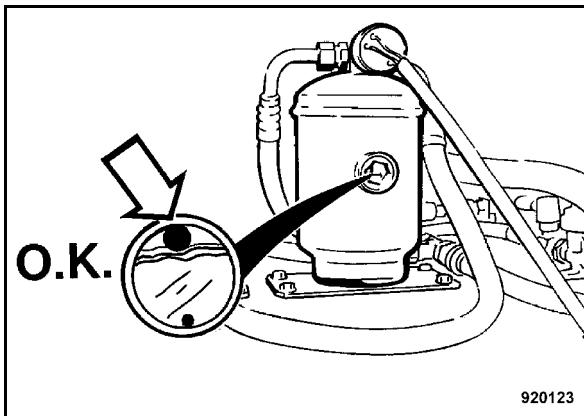

Fig. 148
- Check whether the white float (Fig. 148) inside the inspection glass of the drier/collector unit floats right at the top.